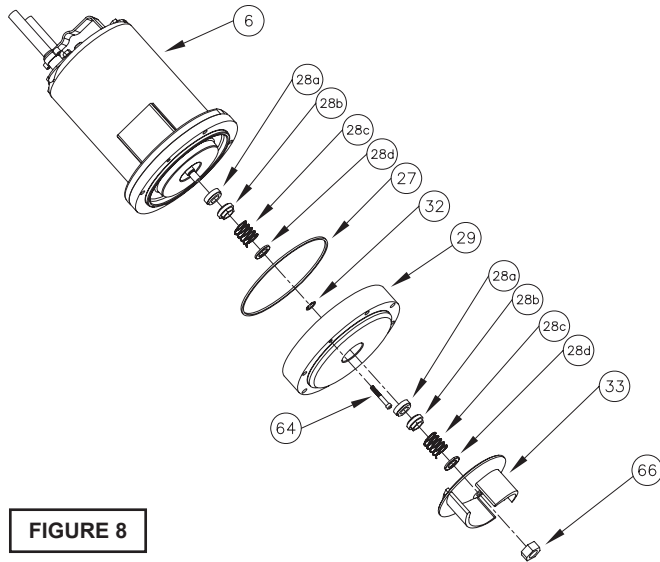

FIGURE 8
Inner Seal (DS Units Only) - To expose inner shaft seal (28) for examination, remove outer seal as outlined above. Remove socket head cap screws (64). Lift outer seal plate (29) and square-ring (27) from inner seal plate (5) see Figure 8. If further repair is required, remove snap ring (32), retaining ring (28d), spring (28c) and rotating member (28b) from shaft. Examine as outlined in outer seal paragraph. If replacing seal, remove stationary (28a) by prying out with flat screwdriver.